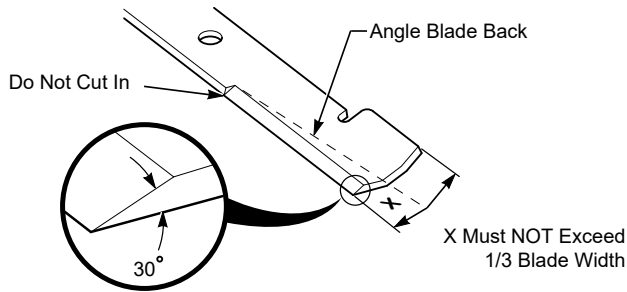

Figure 7-3. Blade Sharpening
DO NOT sharpen the blades beyond 1/3 of the width of the blade. See Figure 7-3.
1. Sharpen the cutting edge at the same bevel as the original. See Figure 7-3. Sharpen only the top of the cutting edge to maintain sharpness.